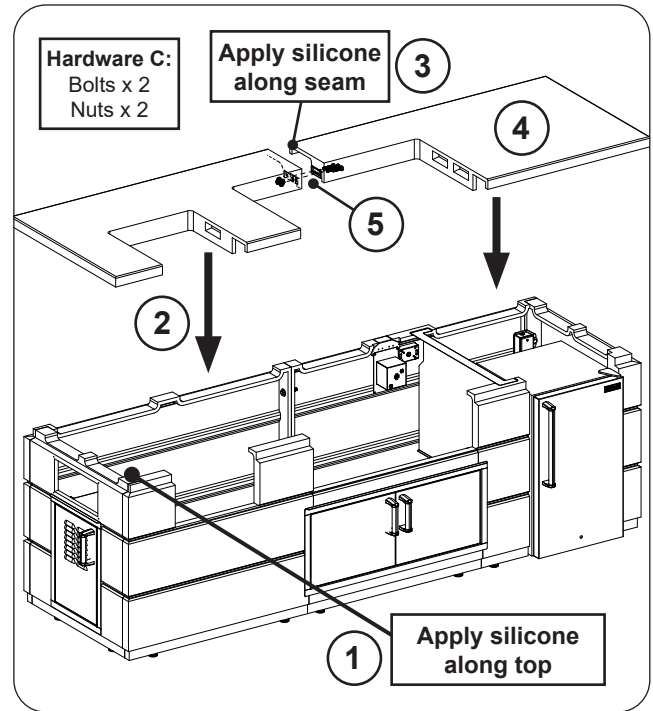

Fig. 14-1 Assemble countertop
1. Apply silicone along the top of the island (see Fig. 14-1, step 1).
2. Place the countertop left piece onto the island as shown in Fig. 14-1, step 2. (Be sure to align the cutouts in the countertop with the openings in the front wall.)
3. Apply silicone along the countertop seam (see Fig. 14-1, step 3).
4. Place the countertop right piece onto the island as shown in Fig. 14-1, step 4. (Be sure to align the cutout in the countertop with the opening in the front wall.)
5. Repeat the hardware installation process (hardware kit C) and use two $\frac{3}{4}$ " open end wrenches (or equivalent) to tighten (see Fig. 14-1, step 5).